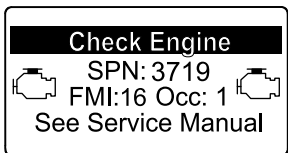

Figure 47
- Engine warning SPN 3720, FMI 16 (Figure 47)